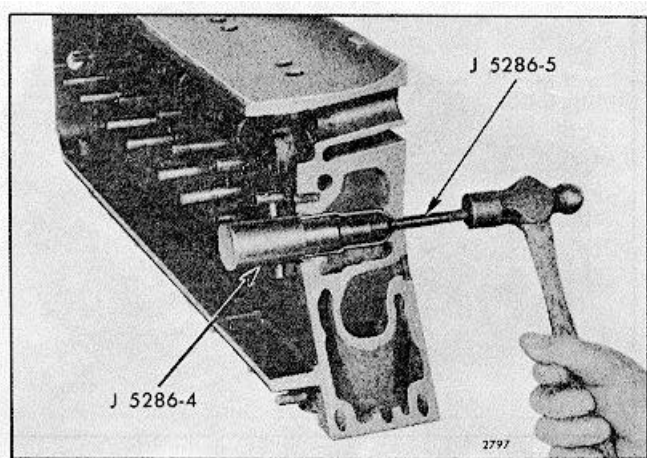

FIG. 1 Removing Injector tube
The bore in the cylinder head for the fuel injector is directly through the cylinder head water jacket as shown in Fig. 1. To prevent coolant from contacting the injector and still maintain maximum cooling of the injector, a tube is pressed into the injector bore. This tube is sealed at the top with a neoprene ring and upset into a flare on the lower side of the cylinder head to create water-tight and gas-tight joints at the top and bottom.
2. Place the injector tube installer J 5286-4 in the injector tube. Insert the pilot J 5286-5 through the small opening of the injector tube and thread the pilot into the tapped hole in the end of the installer (Fig. 1).